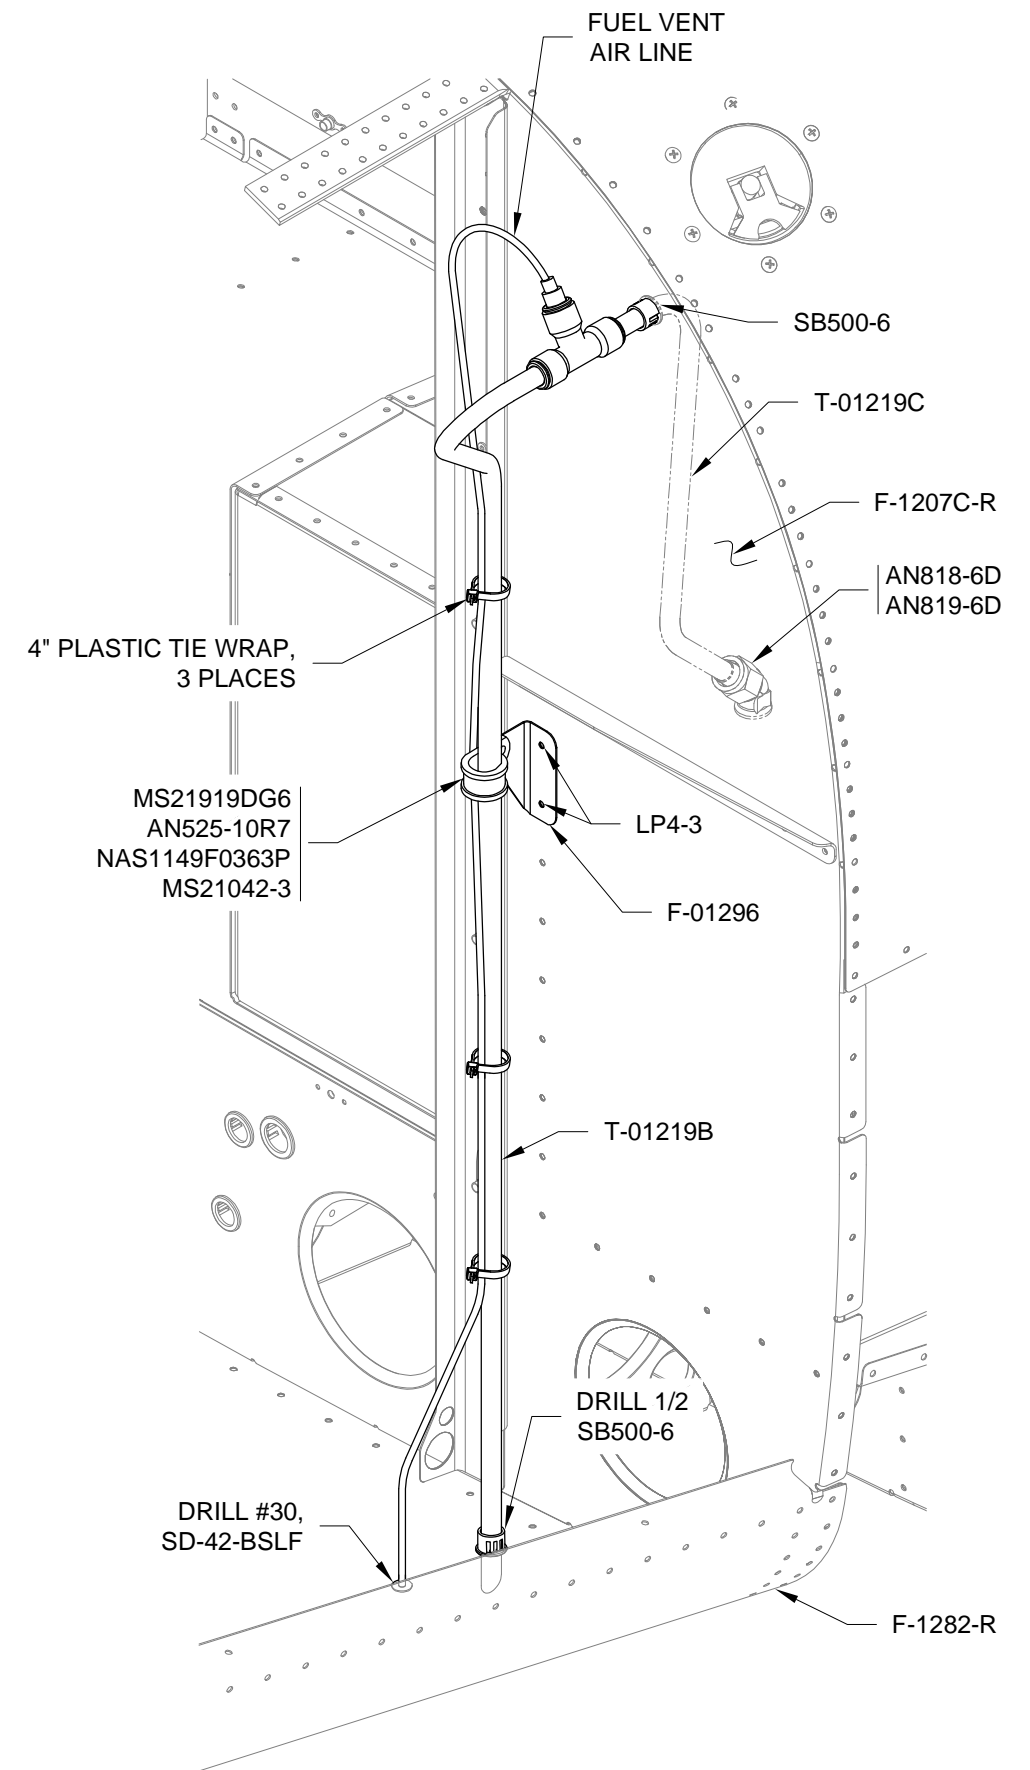

FIGURE 3: FUEL TANK VENT
Install the T-01219C Fuel Vent Line on to the Fuel Tank Assembly and through the F-1207C-R Bulkhead using a snap bushing as shown in Figure 3.
Step 11: Install the blind rivet into the F-1282-R Skin as shown in Figure 3.
Step 12: Install the Fuel Vent Air Line as shown in Figure 3. Refer to 'Installing Static Air System' instructions for guidance on connecting the fuel vent air line to the blind rivet.
Step 13: Install the T-01219B Fuel Vent Line and Snap Bushing as shown in Figure 3.